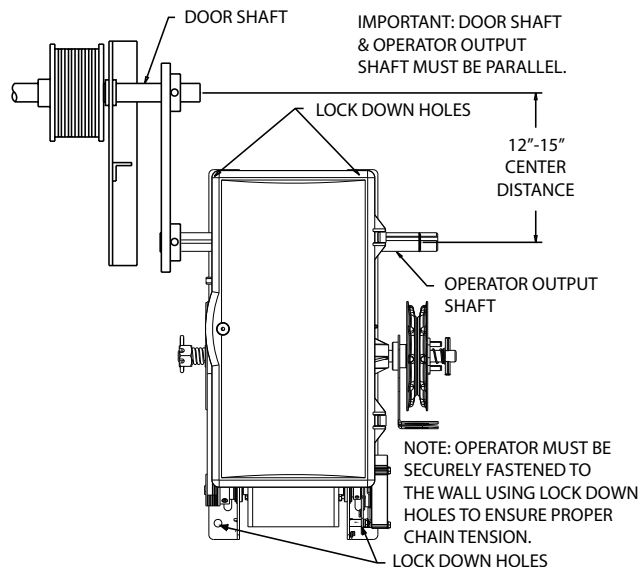

FIG. 2
8. Align chain and secure operator to wall or mounting pad using lock down holes. FIG. 2.
NOTE: If using the slotted mounting hole to mount the unit, you must use at least 2 lock down holes in opposite corners to firmly mount unit to wall. FIG. 2.